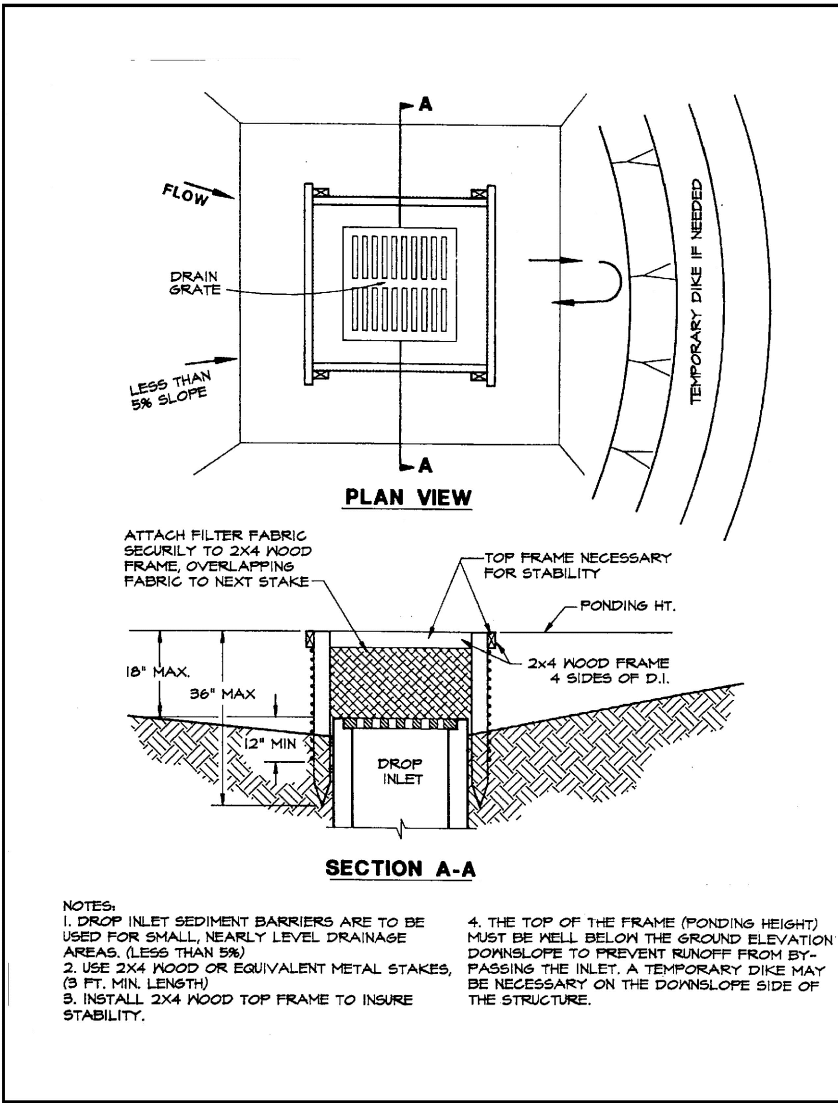

Figure 4.5a. Silt Fence Drop Inlet Sediment Barrier
Where storm drain inlets are to be made operational before permanent stabilization of the disturbed drainage area. Different types of structures are applicable to different conditions (see Figures 4.5a through 4.5f).
4. Figures 4.5a through 4.5f provide specific design criteria for each particular inlet protection device.
2. Stakes shall be 2 x 4 inches (5 x 10 cm) wood (preferred) or equivalent metal with a minimum length of 3 feet (90 cm) (see Figure 4.5a).